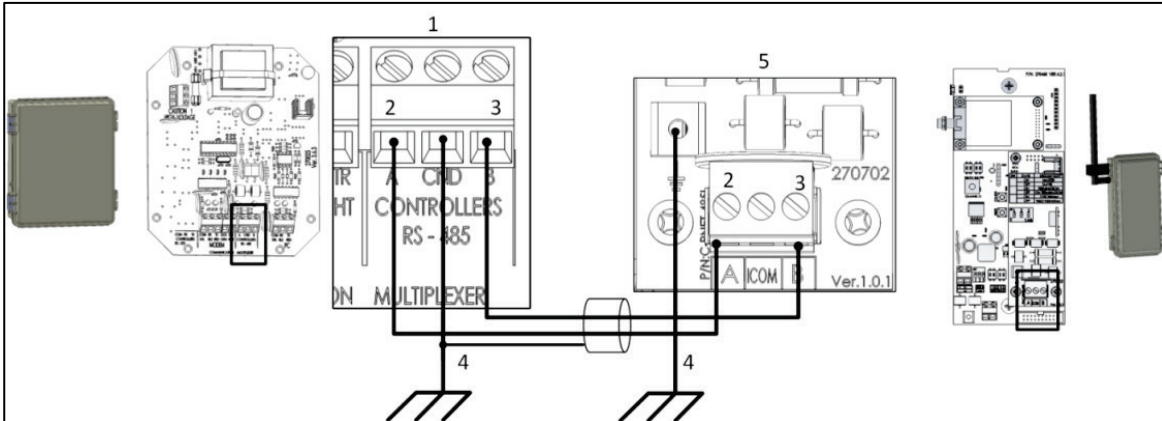

Figure 25: Wiring an Farm Communication Box-485 to a RLINK ONE
- Figure 25: Wiring an Farm Communication Box-485 to a RLINK ONE
Figure 25 key